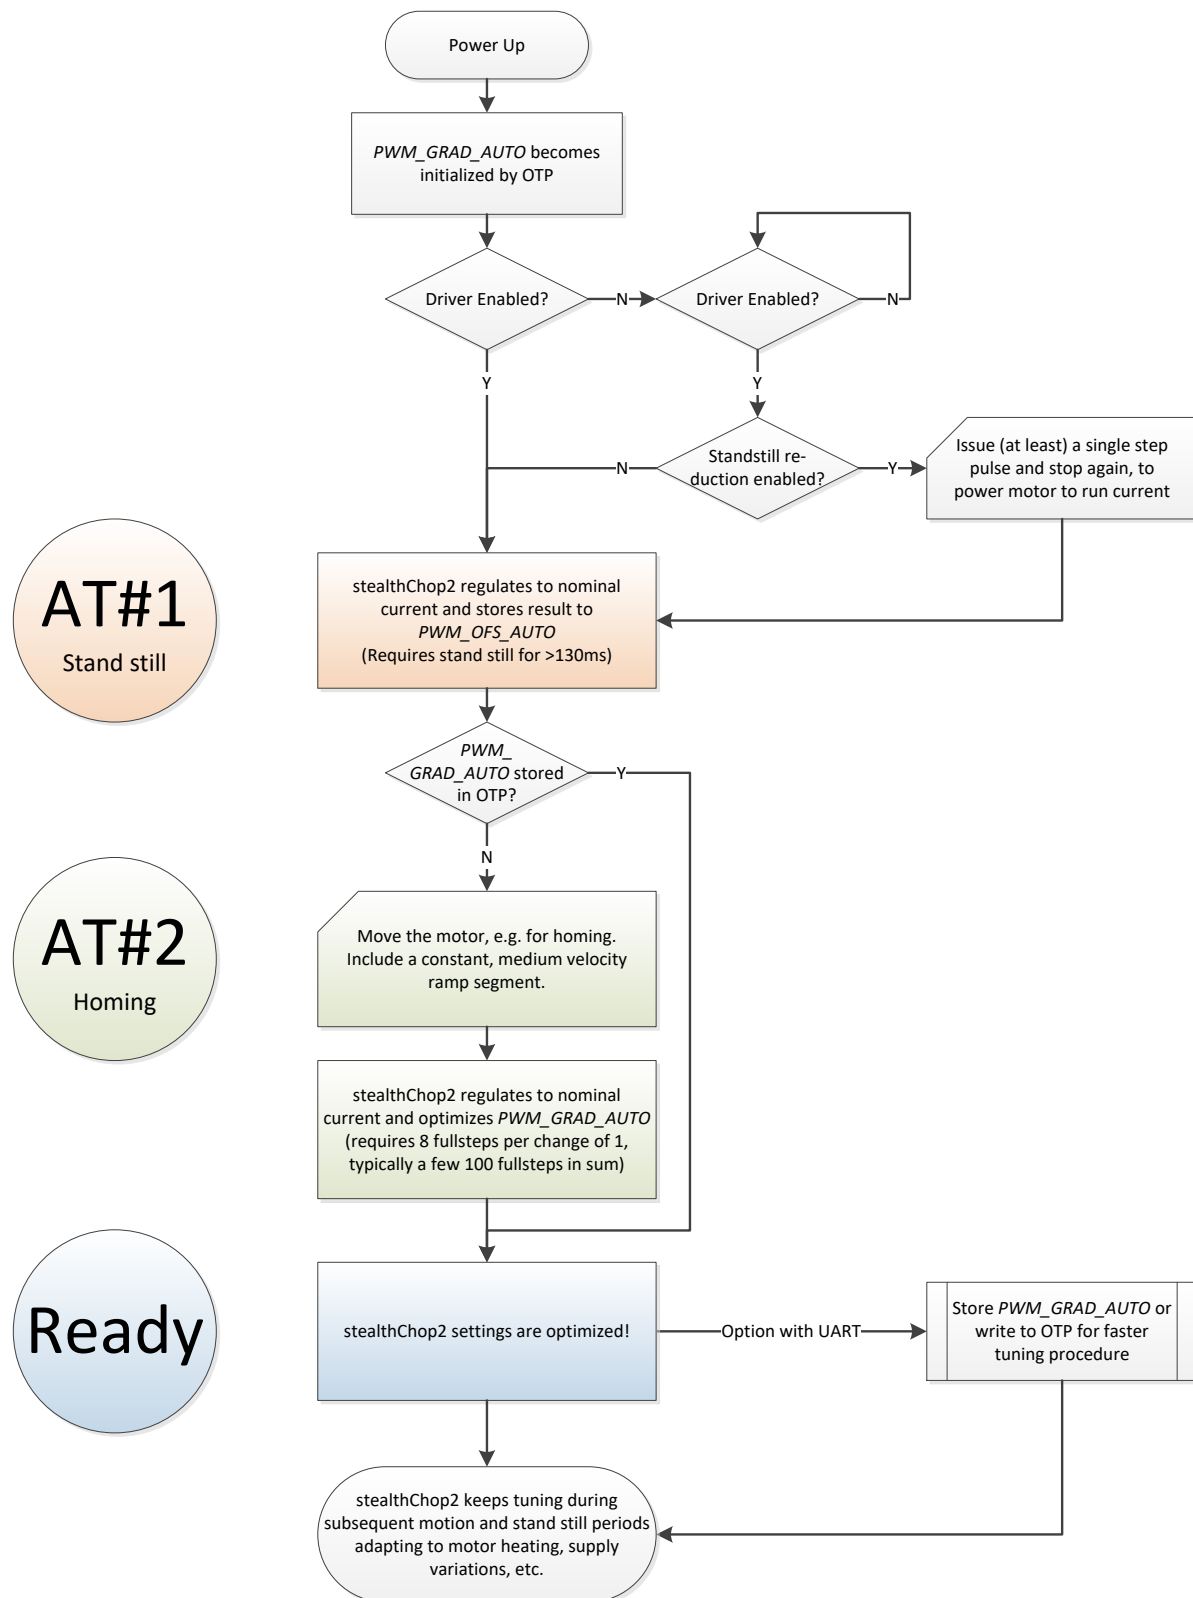

Figure 6.2 StealthChop2 automatic tuning procedure
StealthChop2 integrates an automatic tuning procedure (AT), which adapts the most important operating parameters to the motor automatically. This way, StealthChop2 allows high motor dynamics and supports powering down the motor to very low currents. Just two steps have to be respected by the motion controller for best results: Start with the motor in standstill but powered with nominal run current (AT#1). Move the motor at a medium velocity, e.g. as part of a homing procedure (AT#2). Figure 6.2 shows the tuning procedure.